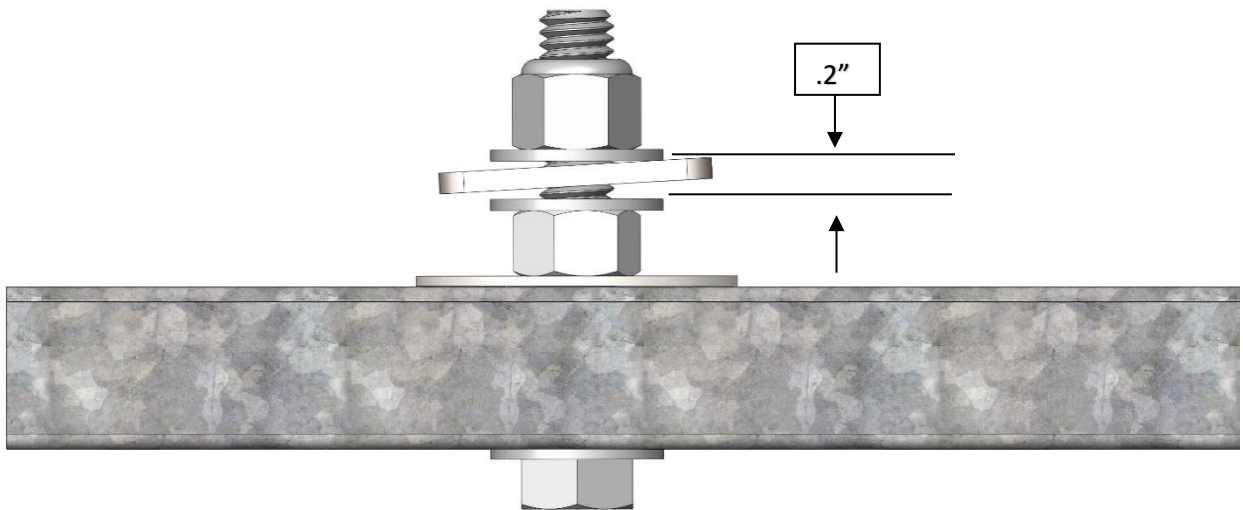

Figure 11: Upper Tape Mounting Assembly
- Thread the Nylock nut onto the bolt until there is a .2" gap between the two flat washers that are on either side of the Tape Interlock bracket as shown in figure 11. This gap is required to relieve twist in the tape.